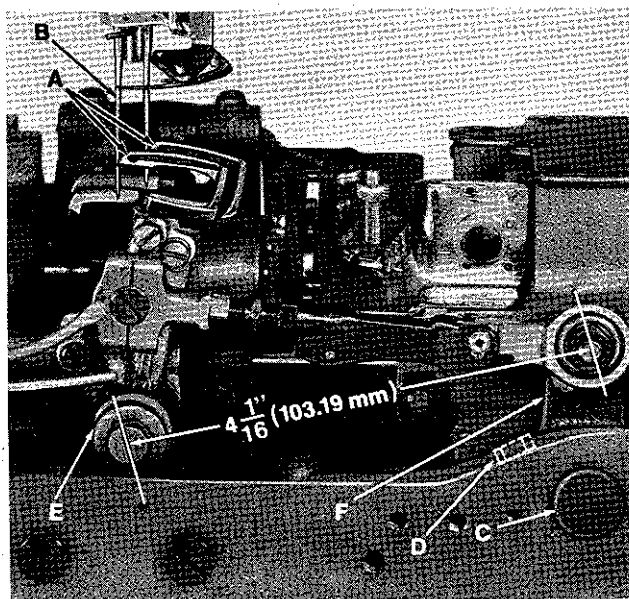

FIGURE 3
Insert the loopers (A, Fig. 3) in the looper rocker, pushing them all the way down and tighten screws against flat on shanks of loopers. Turn handwheel in operating direction until the point of the front looper, moving to the left is even with the left side of the left needle (B). Note the height of the eye of the needle with respect to the looper point, then turn handwheel in the reverse direction until the looper point again moves to the left, and is even with the left side of the needle. If the motions synchronize, the height of the eye of the needle with respect to the looper point will be the same. A variation of .005 inch (.127 mm) is allowable. If the distance from the eye of the needle to the point of the looper is greatest when the pulley is
With the looper at the extreme right end of its travel, check the location of the centerline of the right looper connecting rod bearing, using gauge No. 21227 CX and place hole in gauge over threaded stud. The left end of the gauge should locate against the right side of the looper rocker cone (E). If adjustment is necessary, loosen the clamp screw (D) and reposition the looper drive lever (F) as required. Tighten clamp screw. If gauge is not available, setting can be checked with a scale. The distance between the centerline of the looper rocker cone and the centerline of the looper lever stud should be 4 1/16 inches (103.19 mm) (Fig. 3).